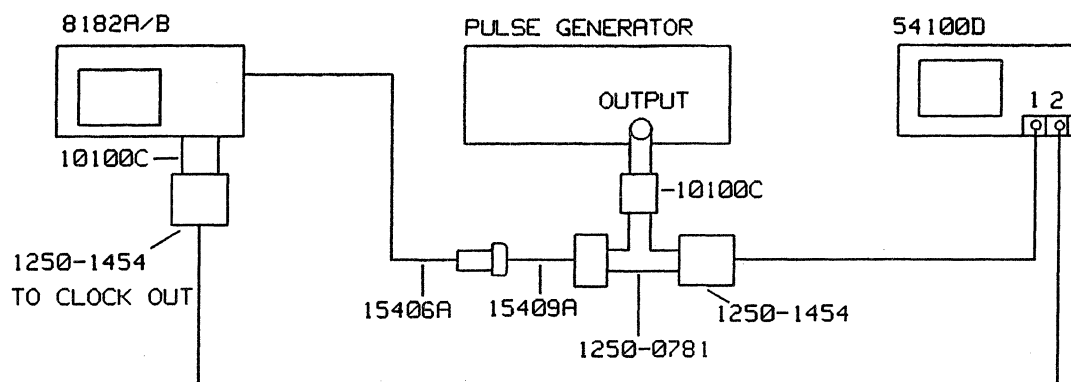

Figure 7-6. Test Setup for the Clock Threshold Hysteresis Test
6. Connect the equipment as shown in Figure 7-6.